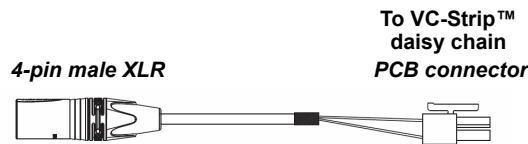

Figure 6: Power and DMX data input to a VC-Strip daisy-chain
4. See Figure 6. Connect a Martin™ hybrid-to-PCB adapter cable (P/N 11840158) to the first VC-Strip of each hybrid link.